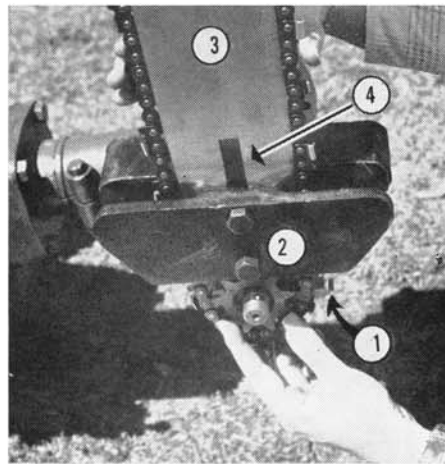

Figure 17
2. Loosen the Bracket Clamp bolt, 1 in Figure 17, until the Bracket, 2 in Figure 17, will slip onto the Gear Housing (it may be necessary to wedge the Bracket to make it fit). Line the lower edge of the Bracket even with the lower edge of the Housing—not with the fixed Collar. Tighten the Bracket Clamp Bolt to lock the Bracket in place.
3. Loosen the Swivel Adjustment Bolt (on the Drive Assembly) and rotate the Bracket until the Guide Bar, 3 in Figure 17, points straight up. Then tighten the Swivel Adjustment Bolt.
Turn the Chain Adjusting Screw, approximate location on other side of Guide shown by 4 in Figure 17, clockwise to increase Chain tension. When the Chain is under proper tension, it will be slightly loose on the Guide Bar, but not loose enough to permit it to come out of its slot when grasped firmly and pulled away strongly from the Guide Bar. Excessive tension will cause the Chain to “burn” the Guide Bar.